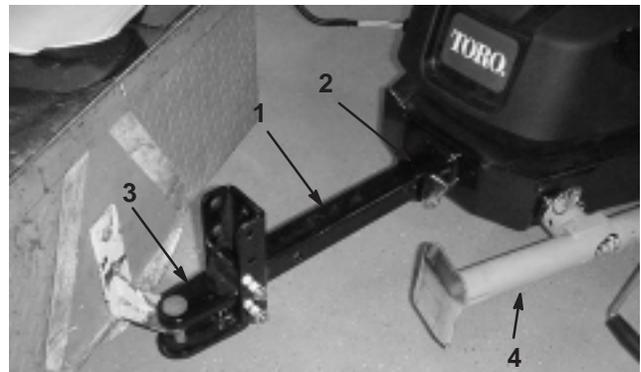

Figure 8
7. Remove clevis pin and hair pin cotter securing hitch tube to frame tube (Fig. 8).